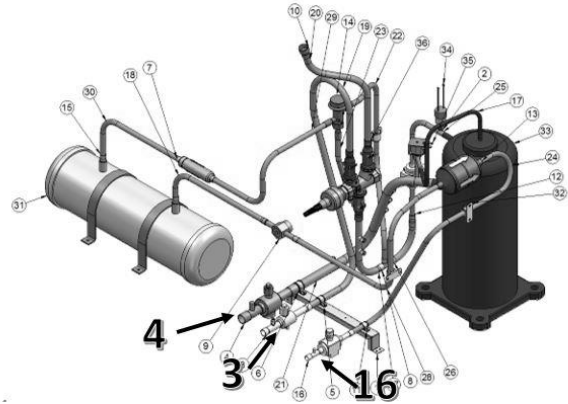

Figure 4 - CU evacuation connections
5. Connect the manifold set to the condensing unit with one hose on the suction line service valve (Item 4 in Figure 4), one hose on the liquid line service valve (Item 16 in Figure 4) and a third hose on the reheat line service valve (Item 3 in Figure 4). Connect the vacuum pump to the manifold set using a 3/8" vacuum rated hose.